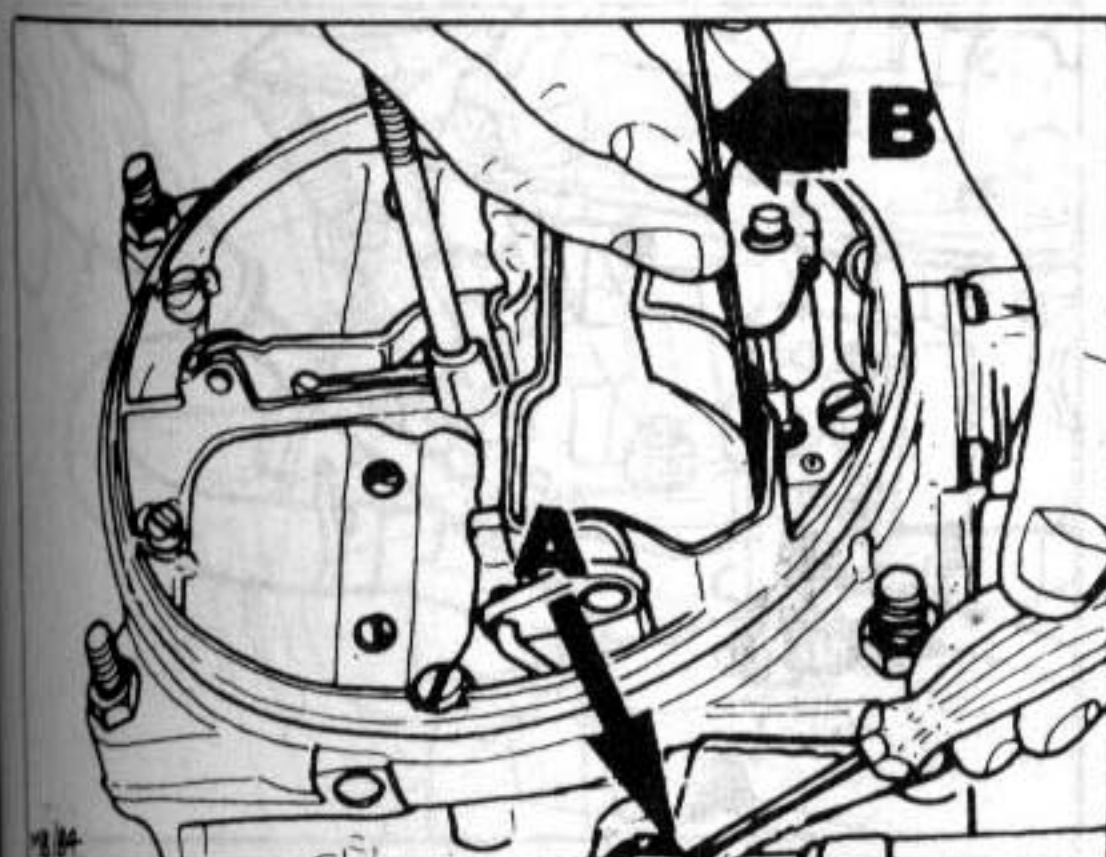

Fig. 5 Checking choke valve gap
- At rear of choke housing, push driving lever (A) up to noticeable stop, using a screwdriver (Fig. 5).